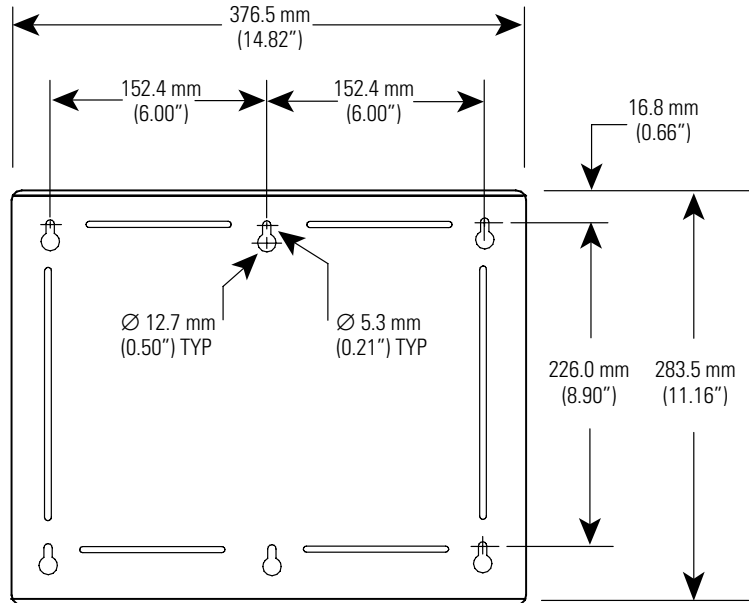

Figure 3. Mounting Template
3. Attach the mounting bracket to the wall with appropriate wall anchors (not supplied). See the mounting template in Figure 3.